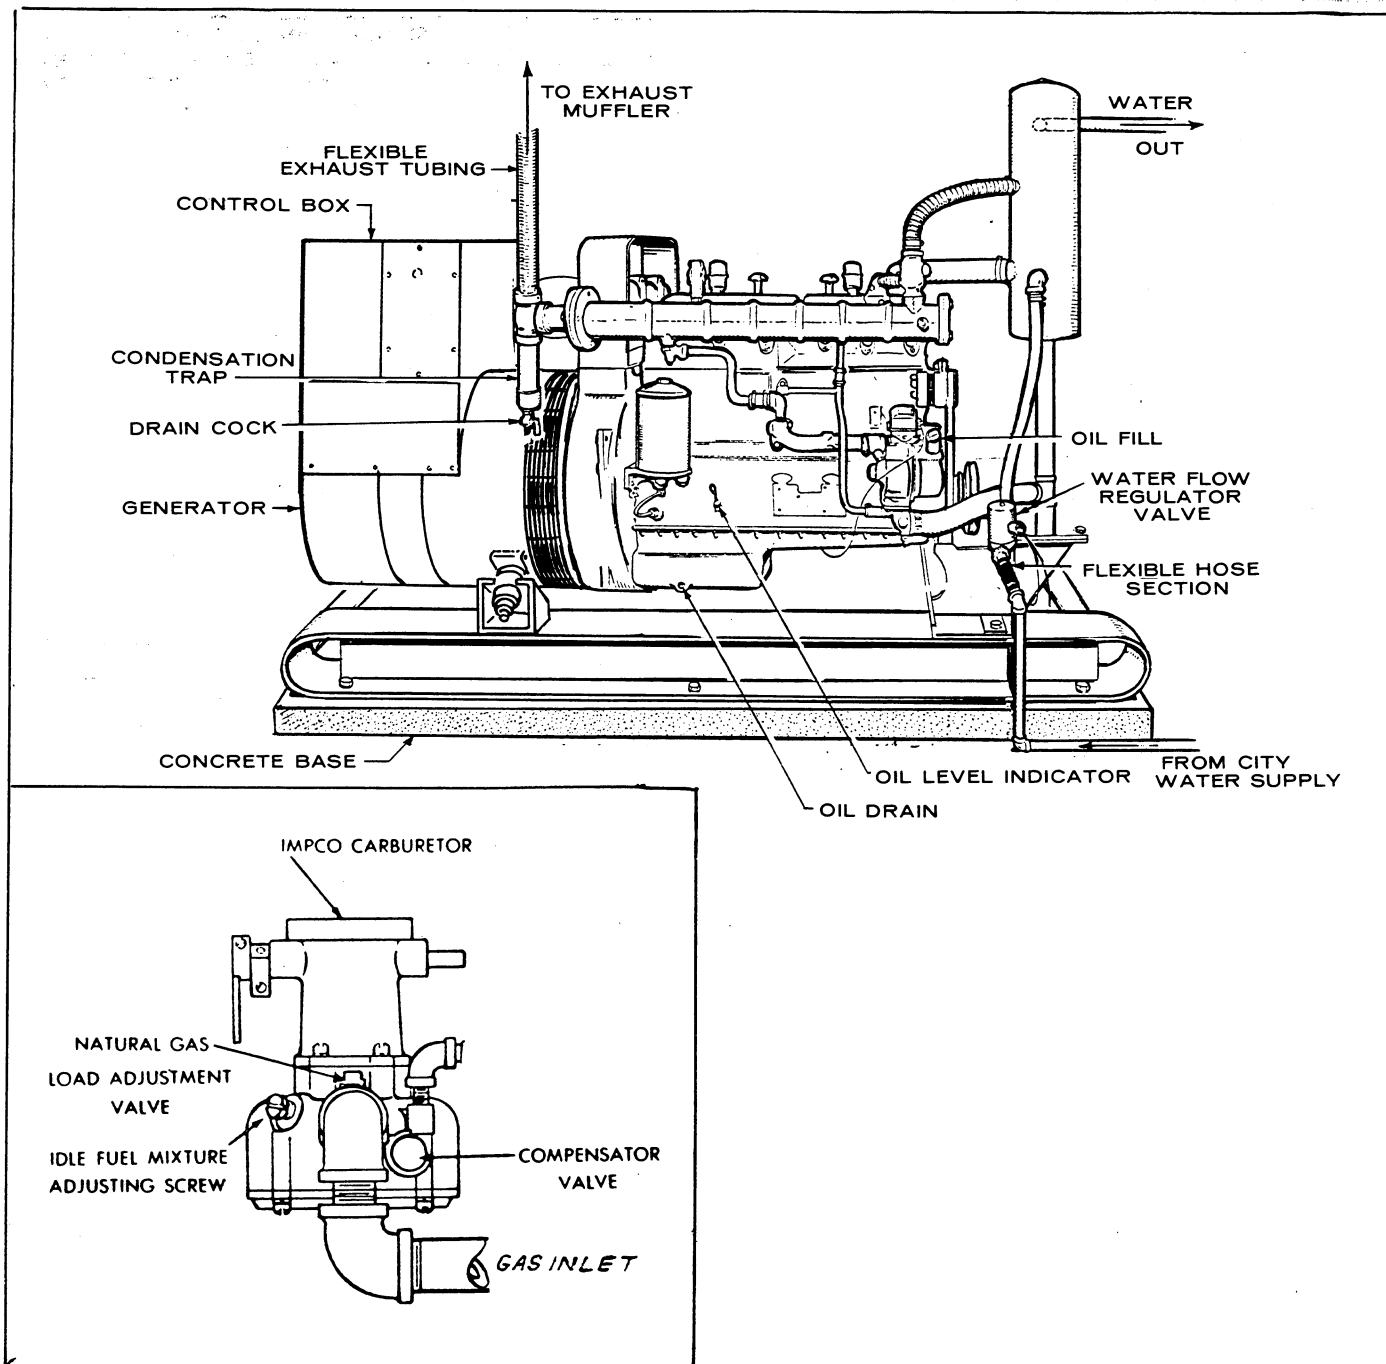

FIGURE 6. TYPICAL INSTALLATION — STANDPIPE-COOLED, NATURAL GAS FUEL
4. **LPG Fuel (Figure 6):** Liquified petroleum gas-fueled sets are equipped with a vaporizer system combined with a pressure reducing regulator. Use only approved materials and methods to connect to the supply source. Install a liquid fuel filter in the supply line and an electric solenoid valve. Refer to the engine control wiring diagram for solenoid valve connections. An emergency hand shutoff valve should be provided.